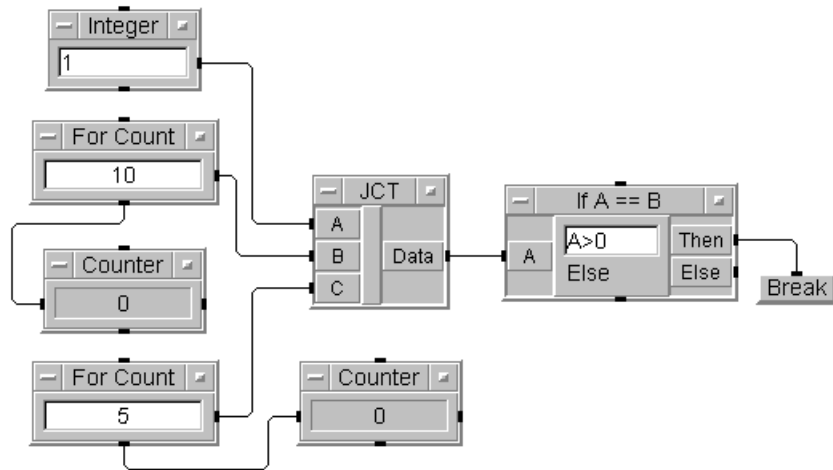

**Figure 1-9. Intersecting Loops Via Junctions**
**Intersecting Loops Via Junctions.** In versions before VEE 4.0, the example shown in Figure 1-9 would execute the *Integer* first. When the program encountered the *Break* it would stop. In VEE 4 and higher Execution Mode, the example below runs the *For Count* objects after the *Integer* objects because the *Break* does not stop the program.